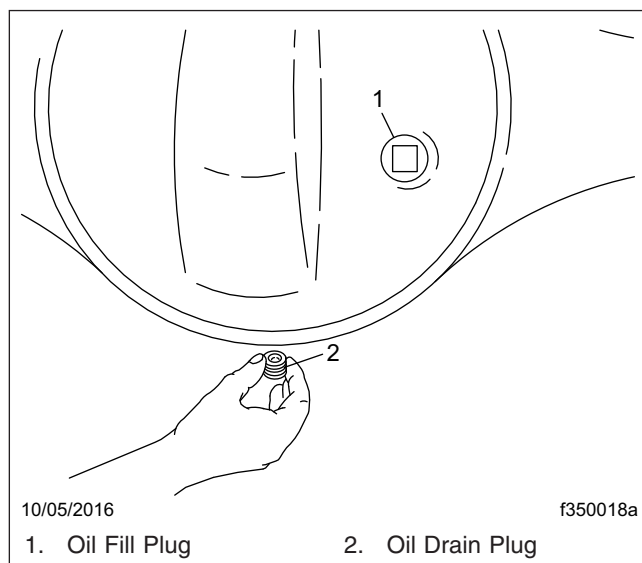

Fig. 4, Axle Housing Drain and Fill Plugs
2. Clean the fill plug and the area around it. In the axle housing rear cover, remove the plug from the oil fill hole (or standpipe, if installed in the oil fill hole). See **Fig. 4**.
3. Place a drain pan under the rear axle drain plug. See **Fig. 4**. Drain the oil at normal operating temperature, 150 to 200°F (65 to 93°C). At this temperature, the oil will run more freely and ensure that the axle is flushed.